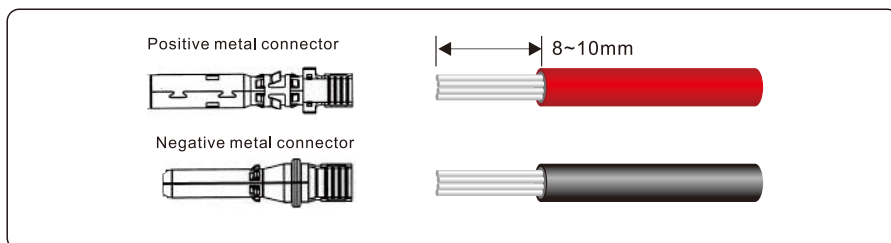

Figure 5.11 Removing insulation layer for DC cable (unit: mm)
Step 1 Remove an appropriate length of the insulation layer from the positive and negative power cables by using a wire stripper, as shown in Figure 5.11.